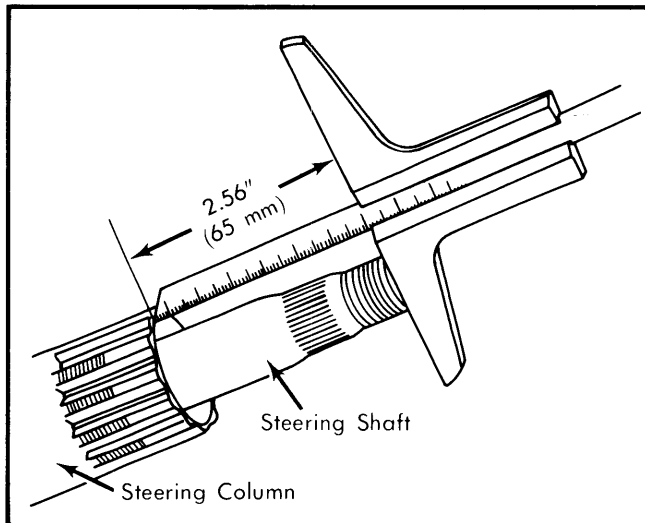

Fig. 2 Steering Shaft Installation Measurement
2) Connect ignition wiring. Install flange tube over steering column pins and press on pinion shaft. Hold flange tube and shaft together with pliers and check length of shaft protruding from upper end of column. Adjust by moving flange tube on pinion shaft until distance is 2.56" (65 mm). See Fig. 2.